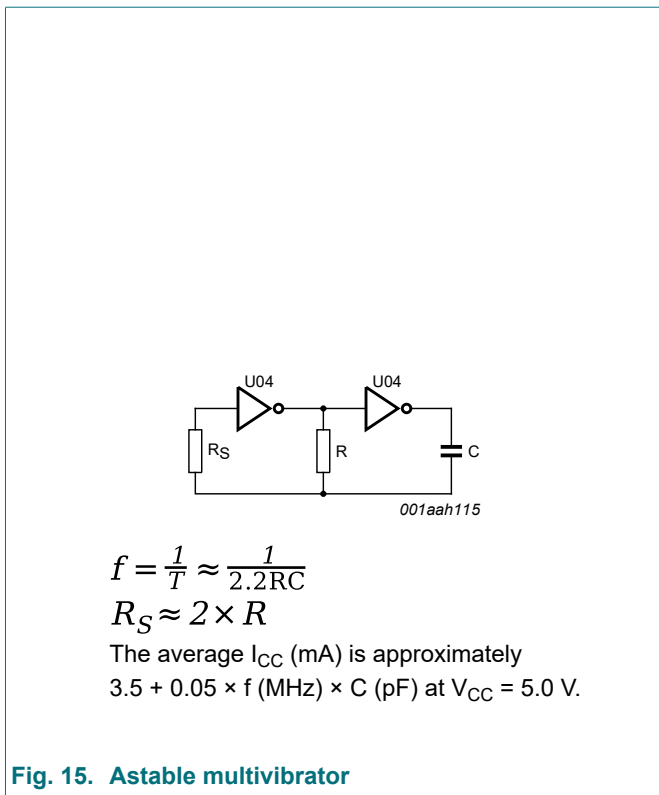

Fig. 15. Astable multivibrator
- Astable multivibrator (see Fig. 15)